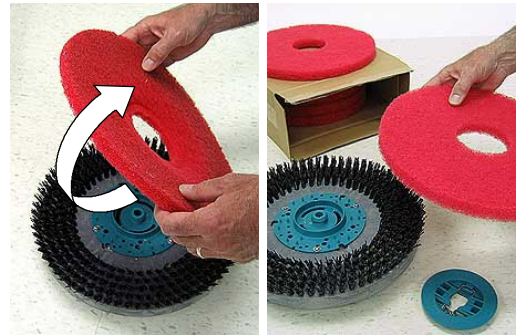

FIG. 59
5. Disk scrub head - Turn pad over or replace when worn (Figure 59).